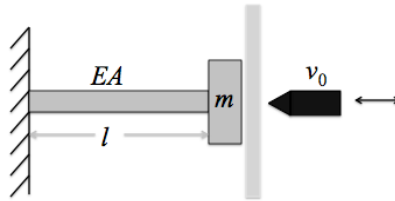

Figure P1.82 A bar model of a punch fixture.
- 1.82** A bar of negligible mass fixed with a tip mass forms part of a machine used to punch holes in a sheet of metal as it passes past the fixture as illustrated in Figure P1.82. The impact to the mass and bar fixture causes the bar to vibrate and the speed of the process demands that frequency of vibration not interfere with the process. The static design yields a mass of 50 kg and that the bar be made of steel of length 0.25 m with a cross sectional area of 0.01 m². Compute the system's natural frequency.
- 1.83** Consider the punch fixture of Figure P1.82. If the system is giving an initial velocity of 10 m/s, what is the maximum displacement of the mass at the tip if the mass is 1000 kg and the bar is made of steel of length 0.25 m with a cross sectional area of 0.01 m²?
- 1.84** Consider the punch fixture of Figure P1.82. If the punch strikes the mass off center it is possible that the steel bar may vibrate in torsion. The mass is 1000 kg and the bar 0.25 m-long, with a square cross section of 0.1 m on a side. The mass polar moment of inertia of the tip mass is $10 \text{ kg}\cdot\text{m}^2$. The polar moment of inertia for a square bar is $b^4/6$, where b is the length of the side of the square. Compute both the torsion and longitudinal frequencies. Which is larger?